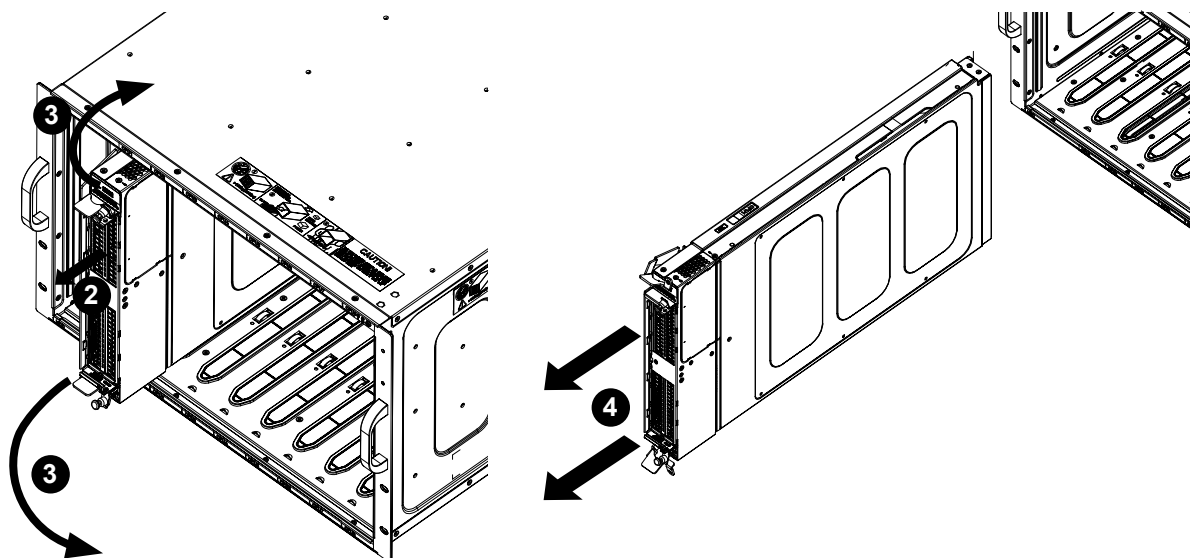

Figure 3-1. Removing a CPU Module
4. With both levers fully released, grasp them both and pull the module outward to remove it from the enclosure as shown in Figure 3-1.